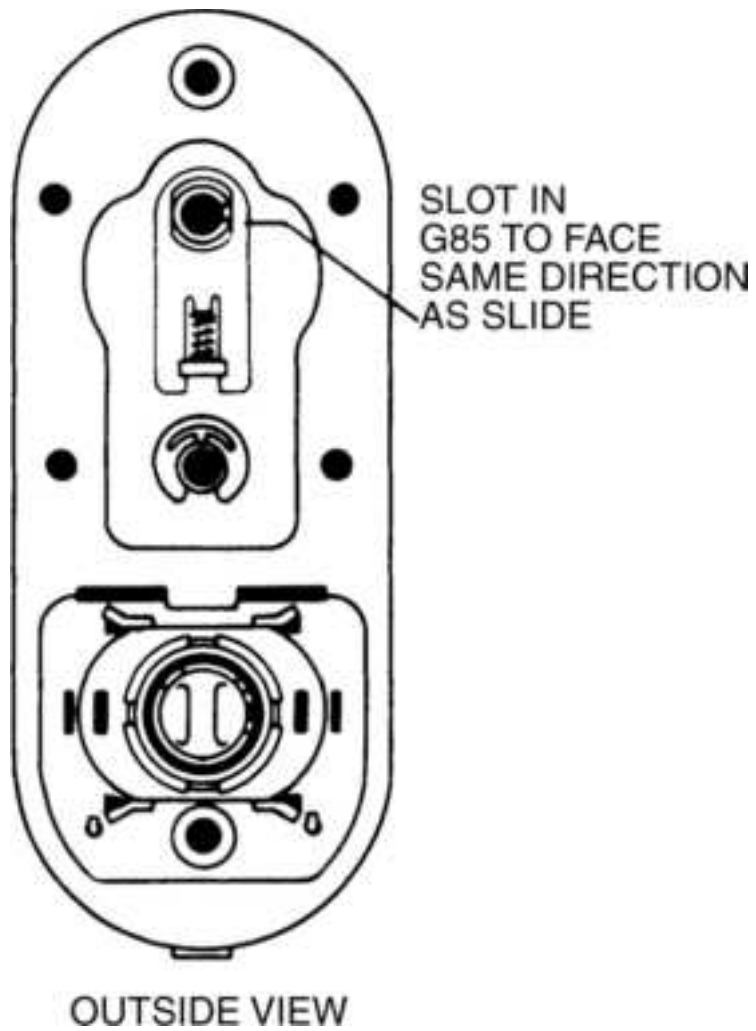

**Figure 13.112** Right-hand conversion, Step 20.
20. Turn the slot in the G85 unit to face the same direction as the slide (Fig. 13.112 ).